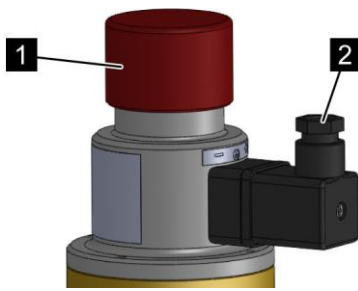

Fig. 92: Protective cap
6. ➤ If no additional pneumatic release devices will be screwed on, screw a protective cap (Fig. 92/1) onto the free thread on the top side of the electrical release device.
7. ➤ Fit the device plug onto the connection (Fig. 92/2) on the electrical release device.